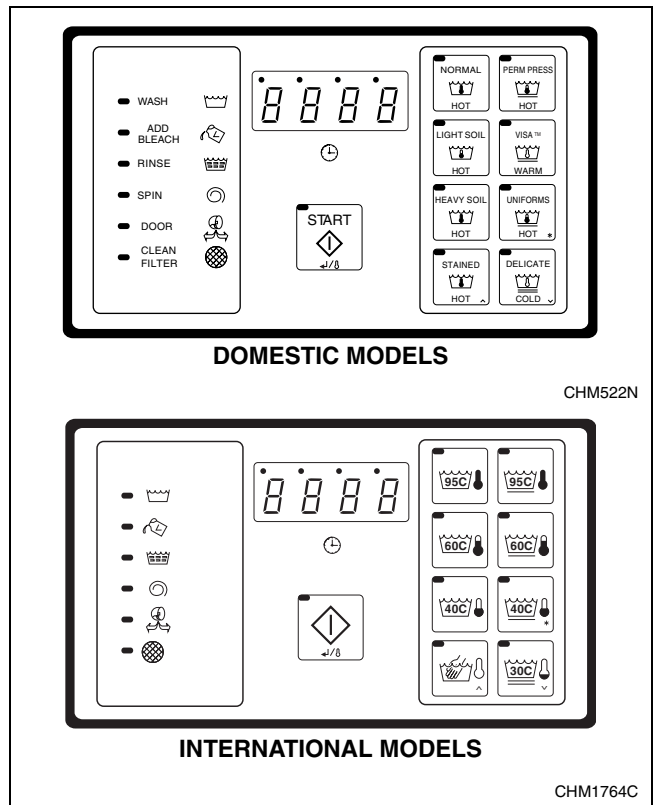

Figure 13
6. The default wash cycle will display. Refer to *Figure 13*.